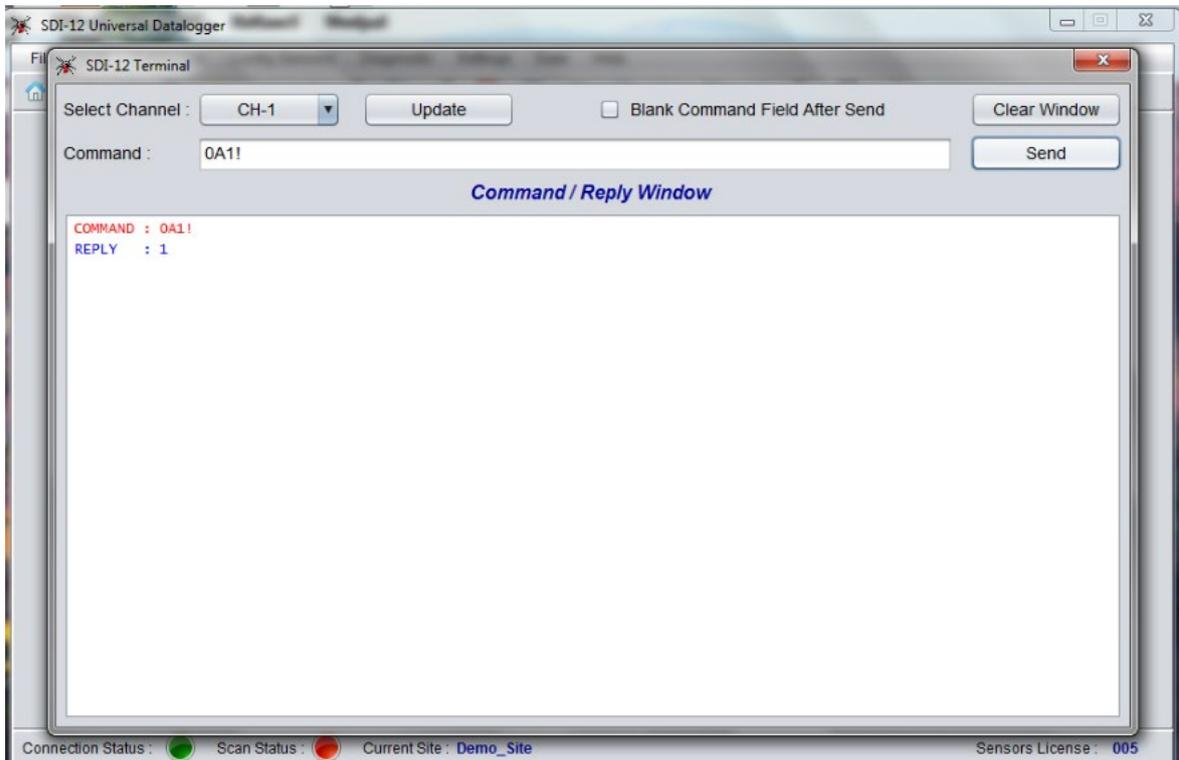

Figure 7-11 Command/Reply Window showing change in address
- To change the sensor address, type “oldaddr A newaddr !” then click “Send” as shown in figure 7-11 below. Now connect other sensors to the datalogger one by one and repeat the same procedure.